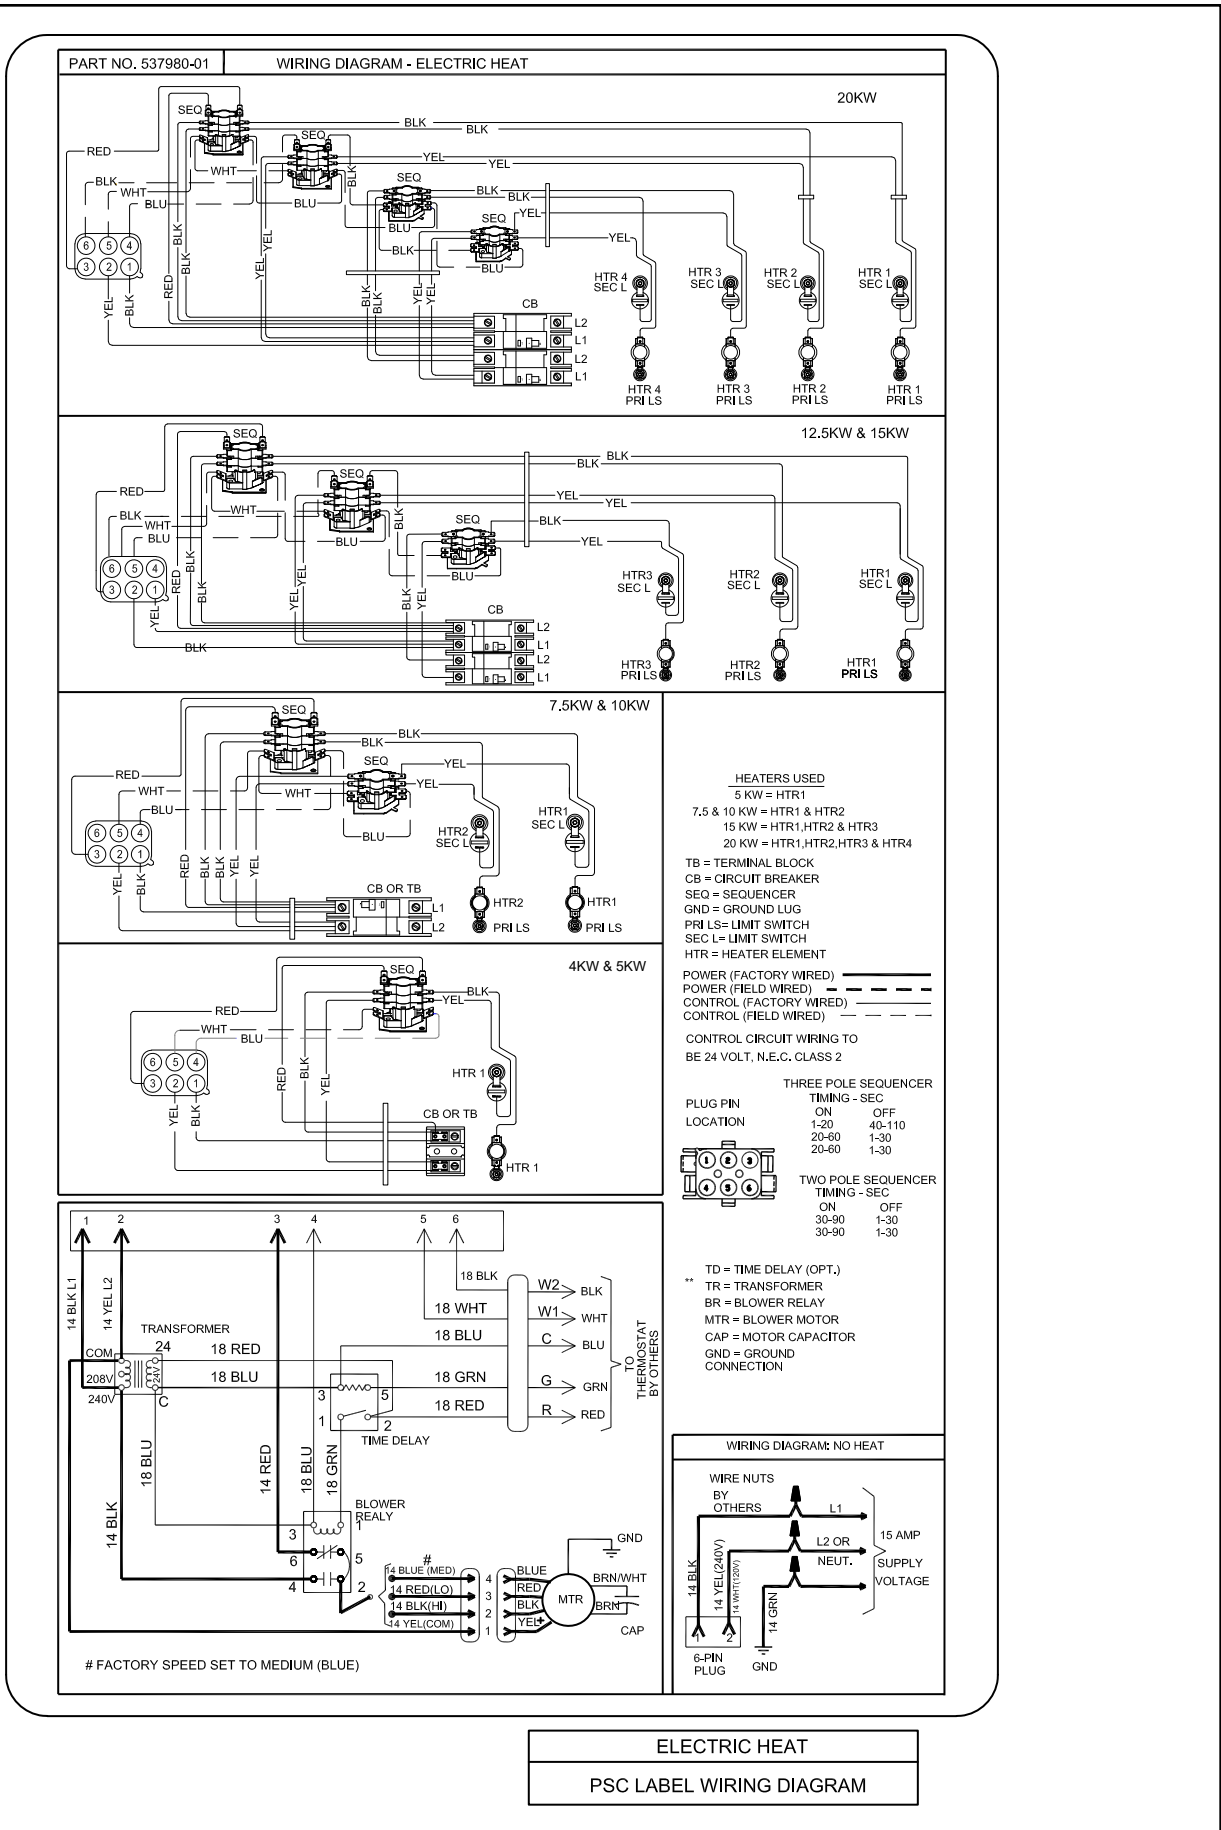

Figure 16. Typical Wiring Diagram – BE5C Air Handler with Electric Heat – PSC (018, 024, 030, 036, 042 models)
- Typical unit wiring (as well as wiring of optional field-installed electric heat) is given in Figure 16. Refer to the instructions provided with the electric heat section for proper installation.